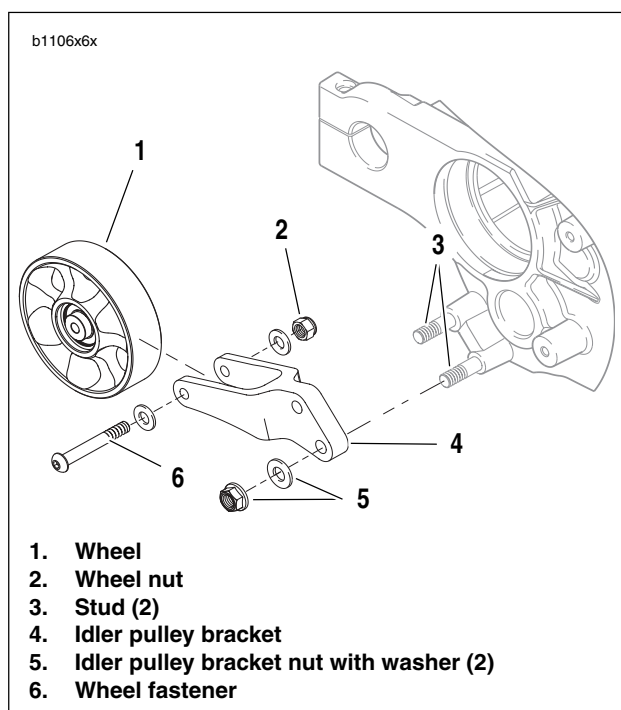

Figure 6-93. Idler Pulley Assembly
4. See Figure 6-93. Remove both bracket nuts with washers (5) attaching idler pulley bracket (4) to studs (3).
6. Inspect pulley by spinning wheel (1) and checking for excessive wheel bearing wear.
7. If pulley wheel needs replacement, remove fastener (6) and nut (2) from idler pulley bracket (4) and discard. Replace with **new** pulley wheel (1).
11. See Figure 6-93. Slide idler pulley assembly on to studs (3), install nuts and washers (5) and tighten to 33-35 ft-lbs (44.74-47.45 Nm).